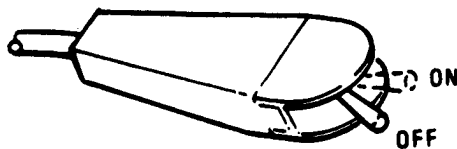

Figure 2-6.1 ON-OFF Switch
Page 2-12, paragraph 2-9c and figure 2-6.1 are superseded by the following paragraph 2-9c and figure 2-6.1:
(1) Adjust truck hand throttle for proper engine RPM (approximately 1000 RPMs) to maintain adequate charge rate during pumping operation.
(2) Turn ON-OFF switch to on position. Refer to Figure 2-6.1.